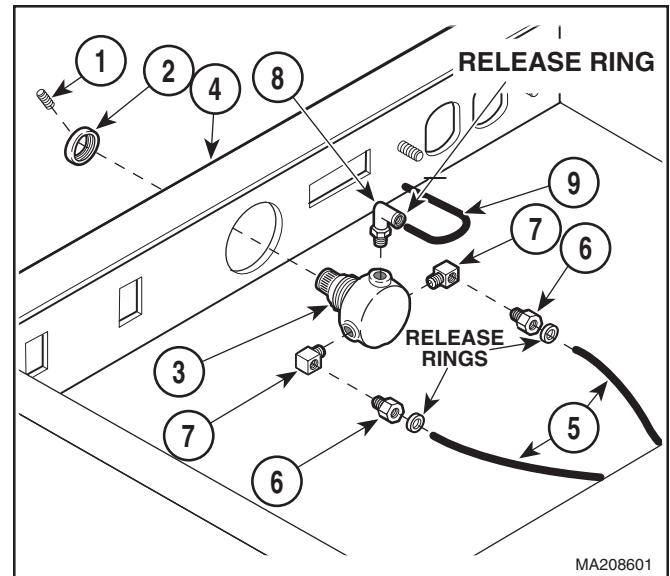

Figure 4-5. Regulator Removal / Installation
- (1) Remove control box cover (Refer to para 4.1).
- (2) On newer units, loosen setscrew (1, Figure 4-5).
- (3) Remove panel mount nut (2) from regulator (3).
- (4) Push regulator (3) out of cabinet weldment (4).
- (5) Push in on release ring of connector (6) while simultaneously pulling tube (5) from connector. Repeat this step for the other tube (5).